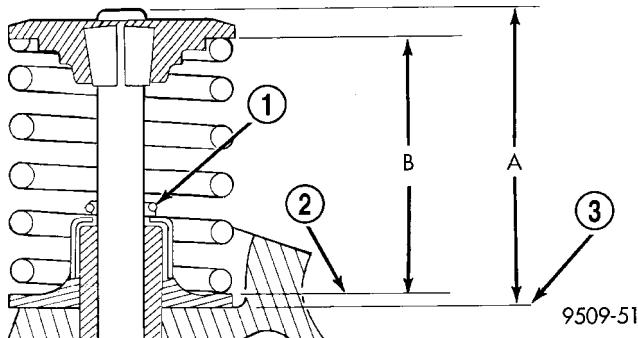

Fig. 36 Checking Spring Installed Height and Valve Tip Height Dimensions
(4) Check the valve spring installed height B after refacing the valve and seat (Fig. 36). Make sure measurements are taken from top of spring seat to the